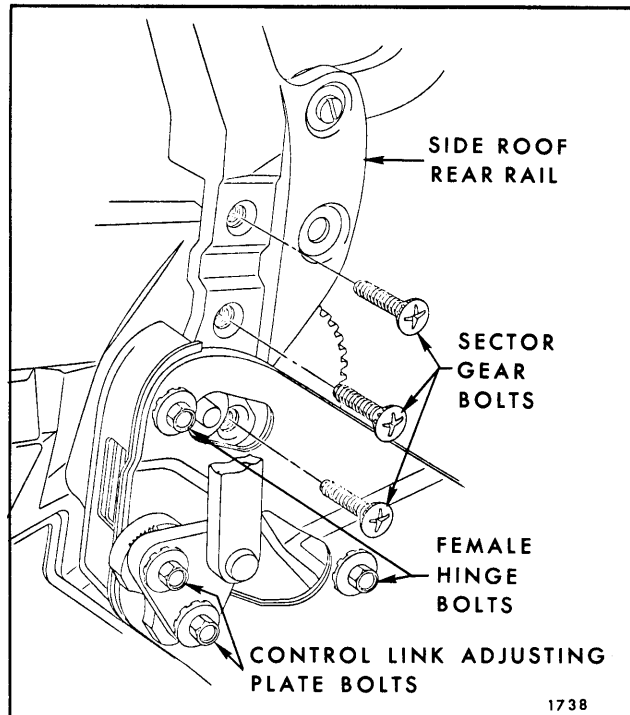

Fig. 13-69—Actuator Attachment
5. Remove bolts securing side roof rear rail to sector gear (Fig. 13-69).
6. Mark location of control link adjusting plate on folding top compartment brace (Fig. 13-69).
8. Mark location of female hinge attaching bolt washers on folding top compartment brace (Fig. 13-69).
1. Install female hinge attaching bolts to new actuator assembly, using washer scribe marks as guide (Fig. 13-69).
2. Install control link adjusting plate attaching bolts, using scribe mark of control link as guide (Fig. 13-69).
3. Manually move sector gear until all attaching bolts can be easily installed; then tighten sector gear attaching bolts (Fig. 13-69).